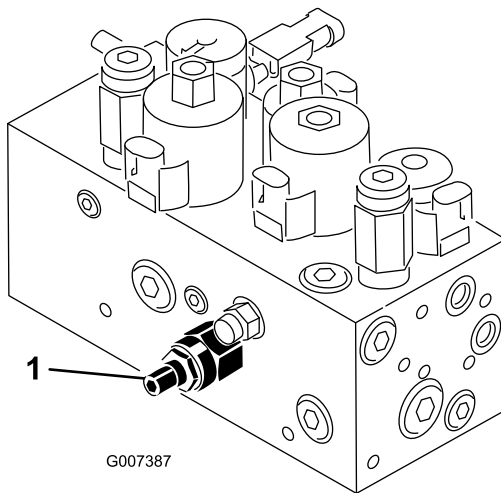

Figure 55
The cutting unit lift/drop circuit is equipped with a flow control valve (Figure 55). This valve is preset at the factory but an adjustment may be required to compensate for differences in hydraulic oil temperatures, mowing speeds, etc. If an adjustment is required, proceed as follows:
1. Raise the seat and locate the flow control valve for the center pull frame (Figure 55) which is located on the side of the hydraulic manifold.